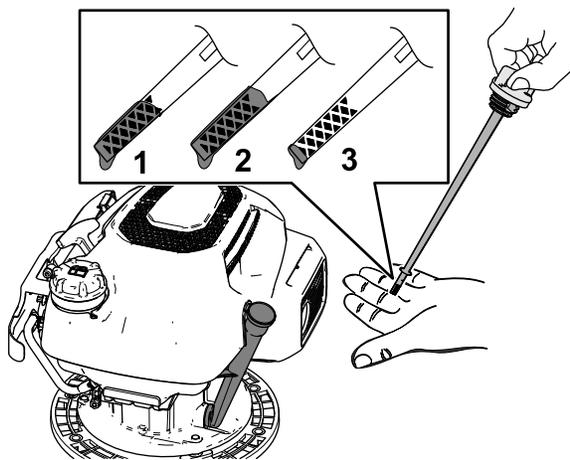

Figure 16
5. Check the oil level on the dipstick (Figure 16).